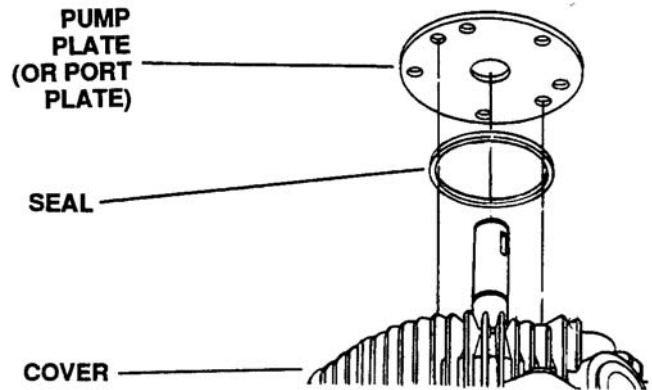

Figure 6-120. Installing Square Cut Seal
6. Lightly lubricate new square cut seal and install in seal groove in cover. See Figure 6-120.